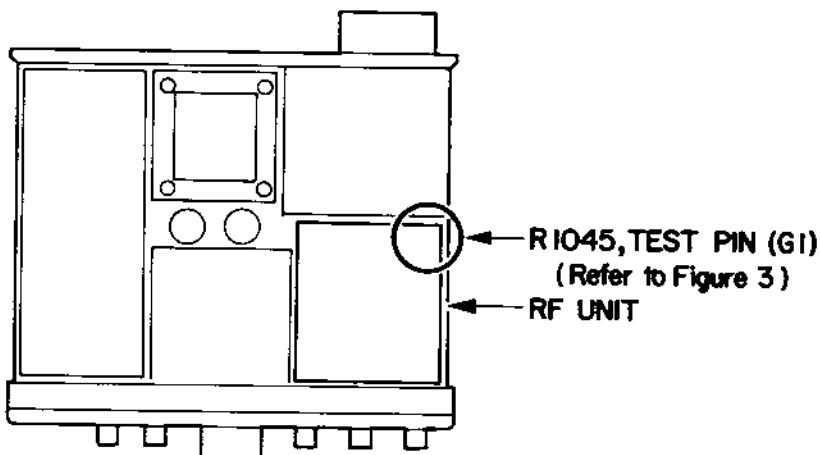

Figure 1
1. On the component side of the RF Unit, install a 1 μ F, 50 WV electrolytic capacitor, as shown in Figures 1 and 2. The positive lead of the capacitor is soldered to the lead of R1045, and the negative lead to the TEST PIN (G1).